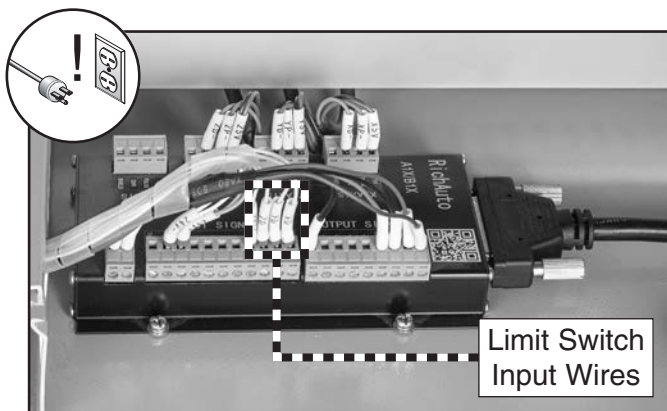

Figure 46. Interface board limit switch input wires.
6. Use a multimeter to check continuity between limit switches and interface board terminals (see **Figure 46**).